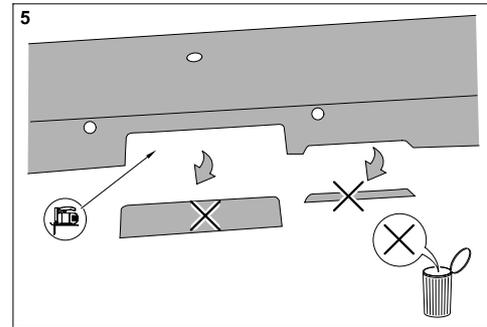

Fig. 5 : Bumper bracket with cutout and chamfer
14.) Cut out bumper bracket in the area of the ball rod corresponding to the marking. Make chamfer 4 x 45 ° over a length of 80 mm on the lower edge of the bumper bracket in the area of the socket (opposite the marking on the left on the upper side of the bumper bracket), see Fig. 5.